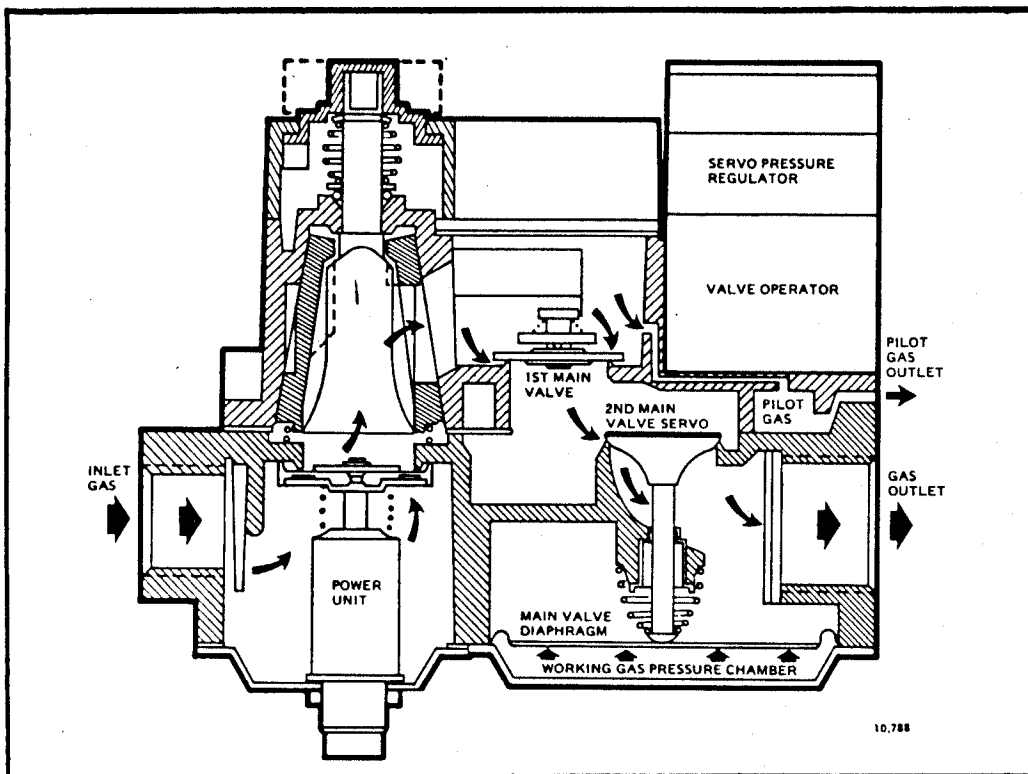

Fig. 47—VR type combination gas controls (continuous pilot shown).
Fig. 47 illustrates the VR type gas controls.
**NOTE:** On VR type combination gas controls for continuous pilot application, the Power Unit mounts from the bottom of the control (Fig. 47). The principle of operation, however, is basically the same.